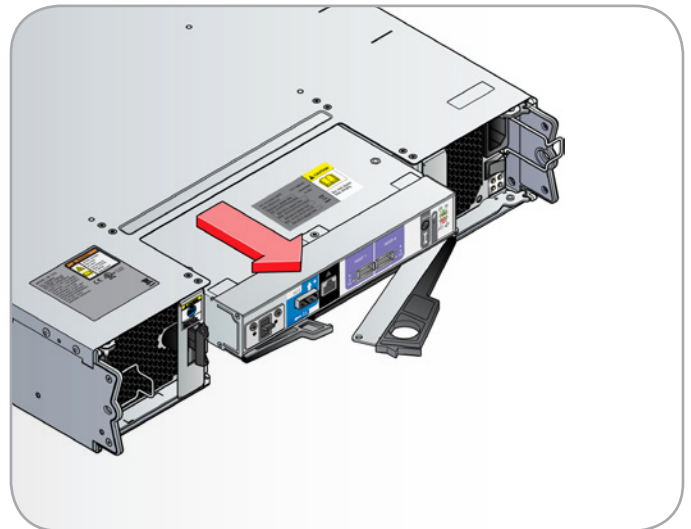

Fig. 41 - Removing the RAID Controller Module
3. Using the latch as a handle, withdraw the RAID Controller (Fig. 41).